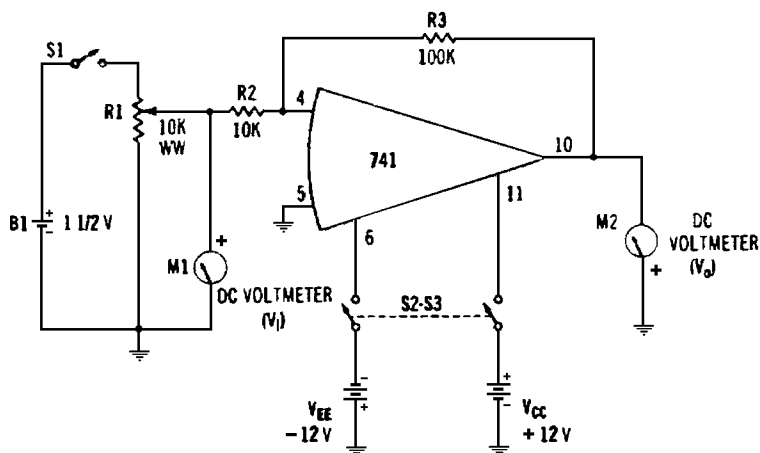

Fig. 2-18. Maximum dc output-voltage swing.
### Required Equipment (Fig. 2-18)
1. With switches S1 and S2-S3 open and with potentiometer R1 set to zero, set up the test circuit as shown in Fig. 2-18.